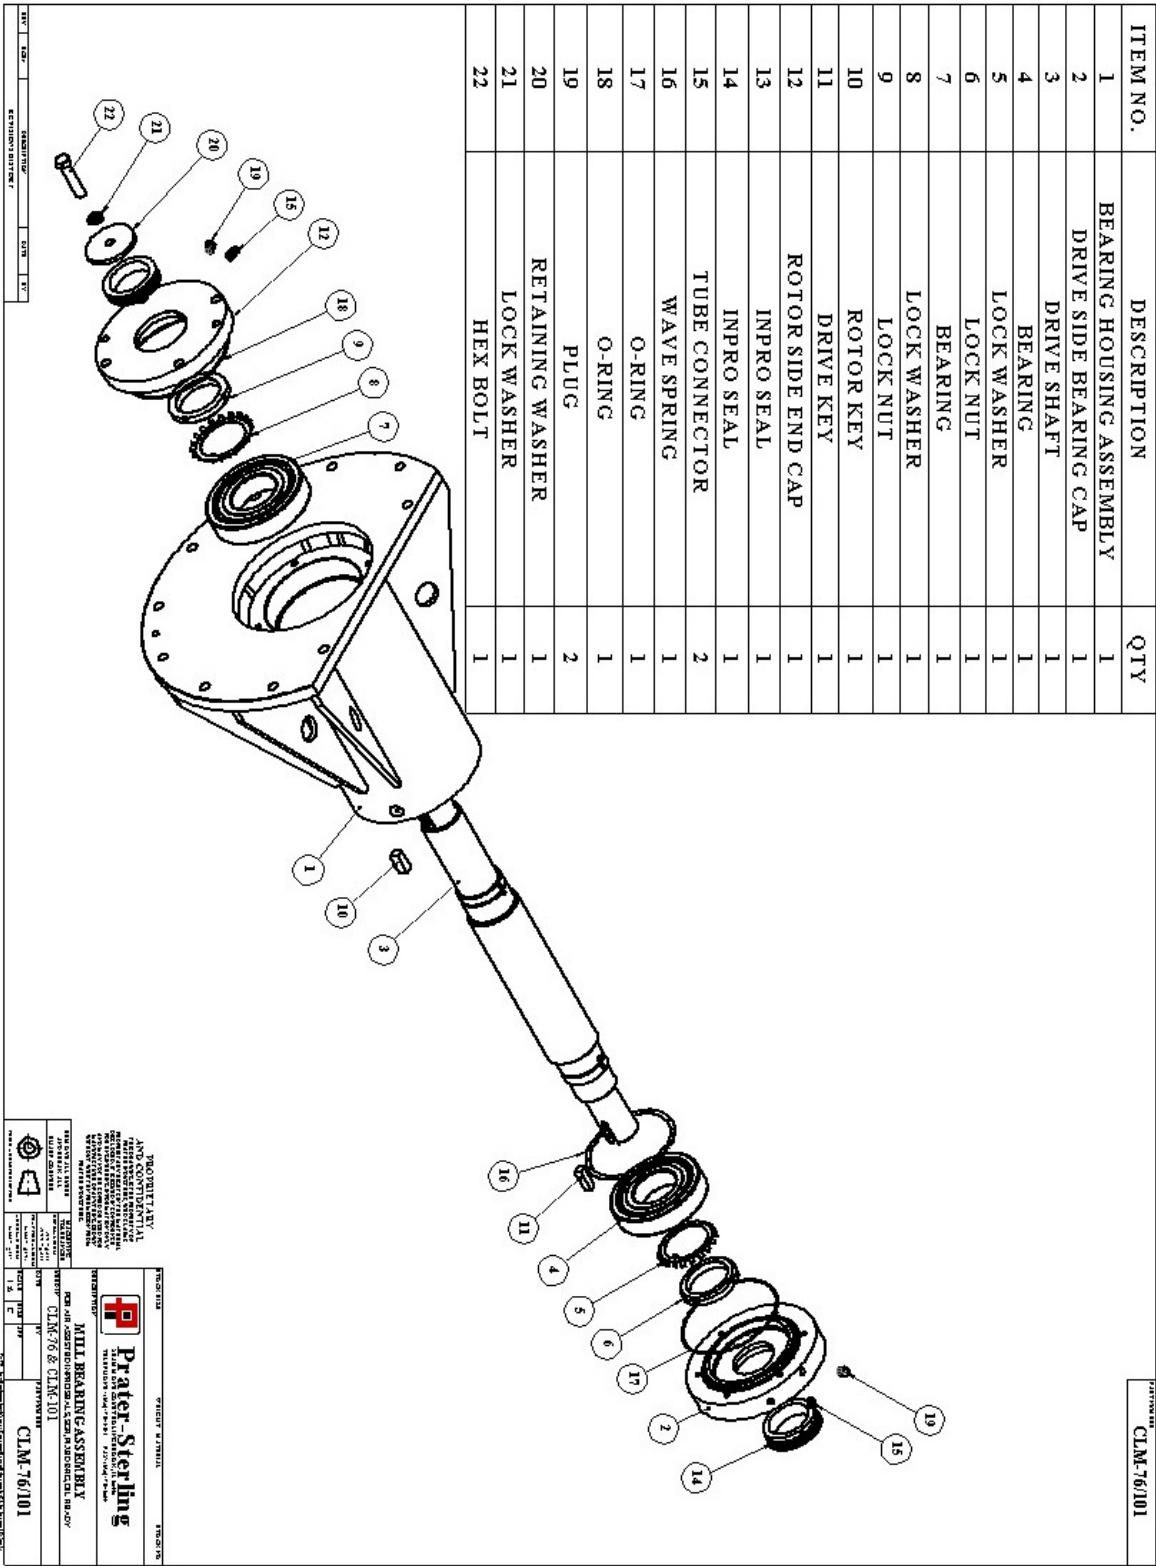
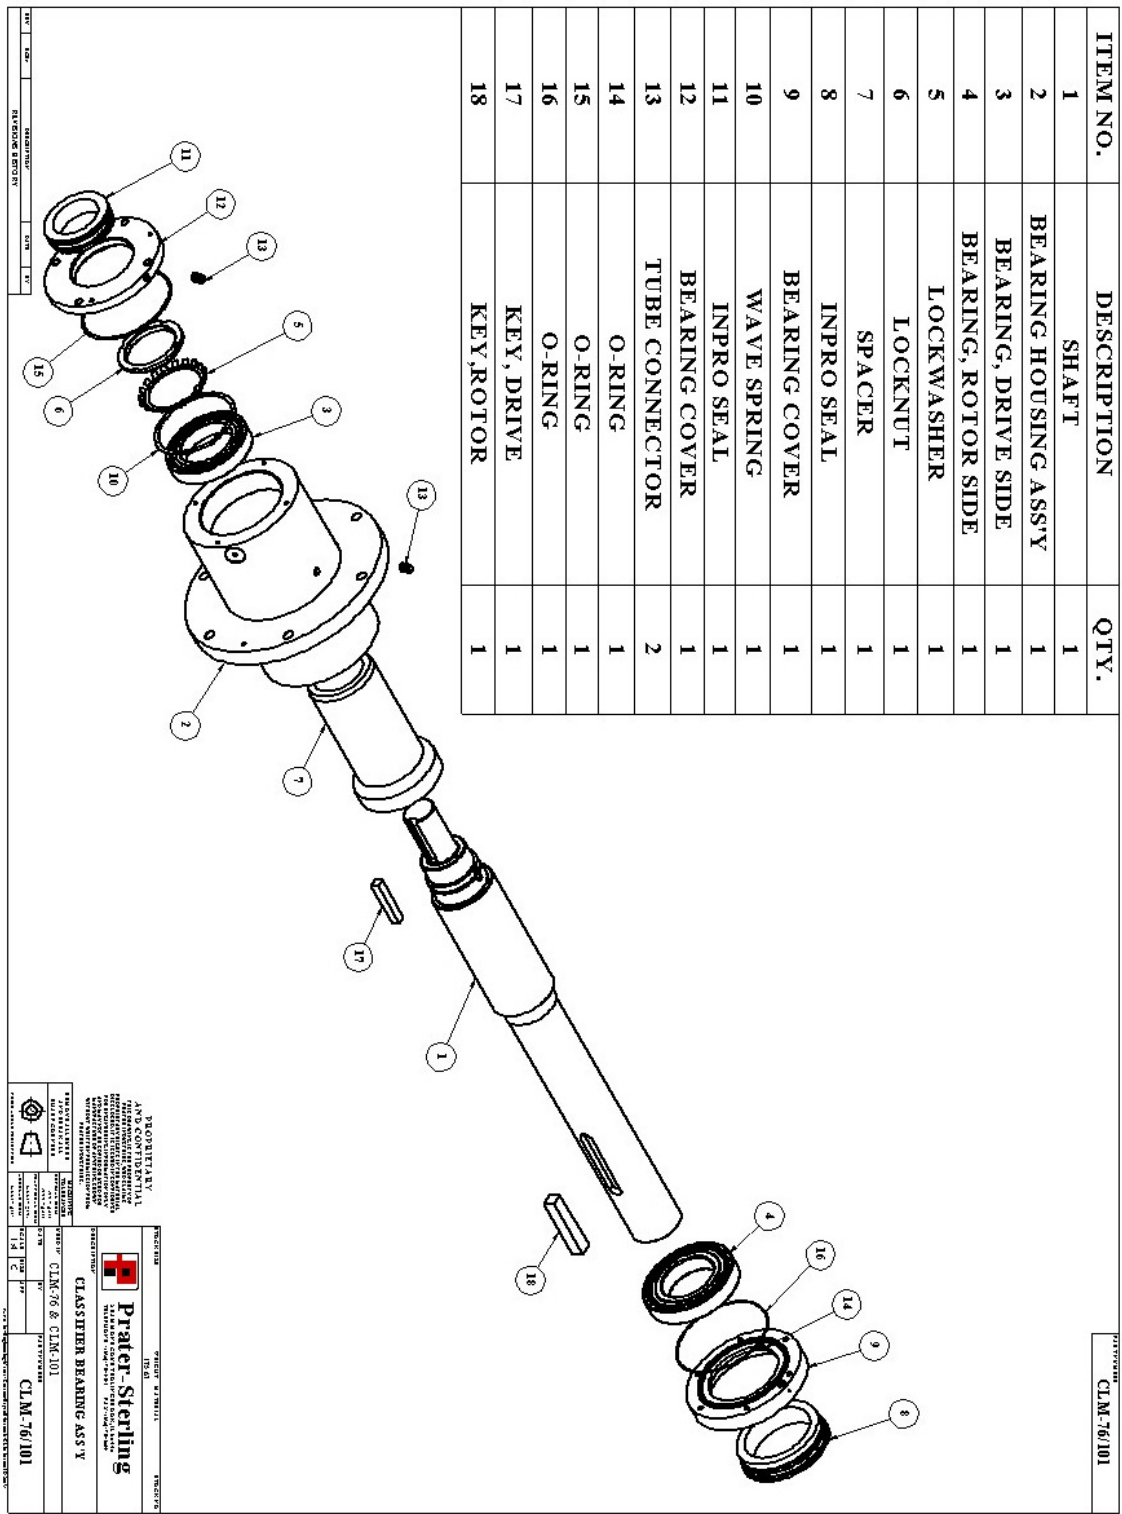
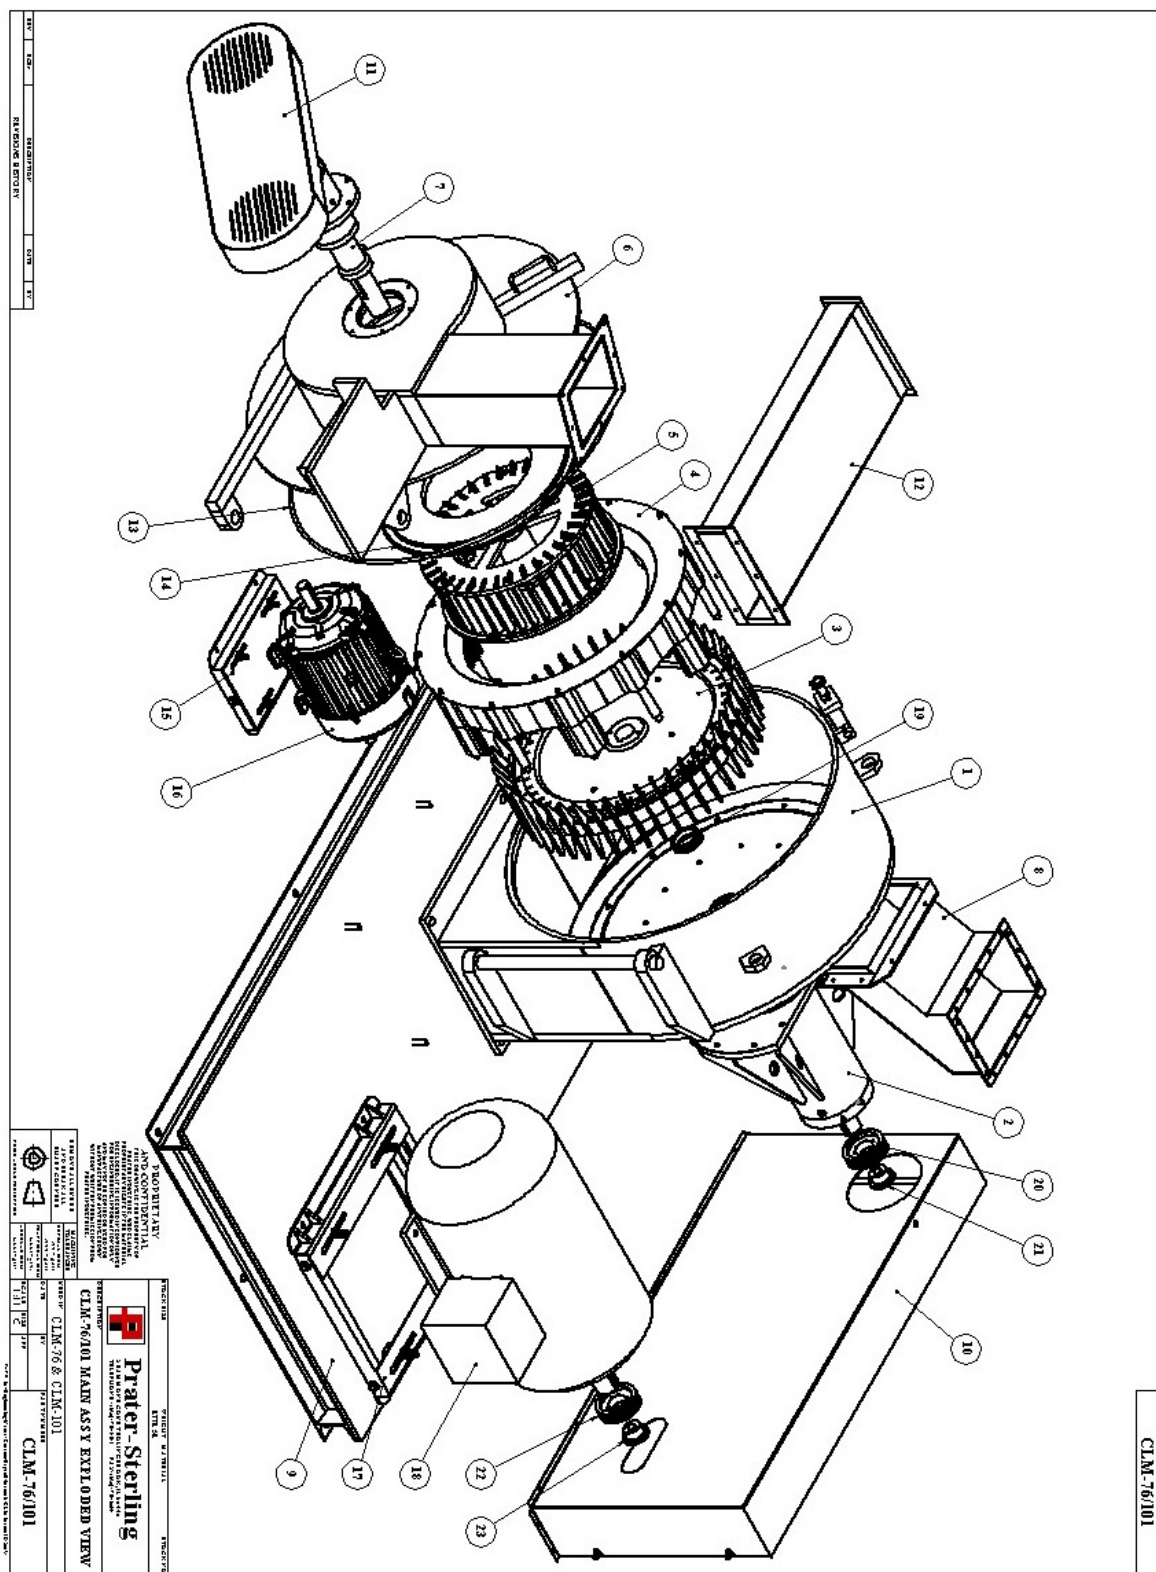

Figure 6.3: CLM-76 & CLM-101 Exploded Mill Bearing Assembly
Figure 6.4: CLM-76 & CLM-101 Exploded Classifier Bearing Assembly
Figure 6.7: CLM-76 & CLM-101 Main Assembly Exploded View
Assemble bearings (Figure 6.3 - 4, 7)) on mill shaft (Figure 6.3 - 3) using the following procedure:
The pressure applied to the bearing must be on the inner race, and the inner race only. Never put pressure on the outer race to press a shaft into the inner race of a bearing. Be sure the tool being used to apply pressure to the inner race is only touching the inner race. Never apply pressure to one bearing while using the opposite bearing for resistance or as a stop. This will damage the opposite bearing. The assembly operation starts by pressing the rotor side bearing (Figure 6.3 - 7) onto the bearing housing shaft (Figure 6.3 - 3). Install the lock washer and lock nut (Figure 6.3 - 8, 9) so they are tight against the inner race. Press the drive side bearing (Figure 6.3 - 4) onto the shaft (Figure 6.3 - 3). Replace lock washers and lock nuts (Figure 6.3 - 5, 6) so they are tight against the inner race. Make sure the tabs in the lock washers are bent down onto the lock nut.
Using an induction heater, heat the rotor side bearing (Figure 6.3 - 7) and insert it on the shaft (Figure 6.3 - 3) and against the shaft shoulder and let it cool. **MAXIMUM temperature is 230° F (110°C)**. Install the lock washer and lock nut (Figure 6.3 - 8, 9) so they are tight against the inner race. Heat the drive side bearing (Figure 6.3 - 4) and insert it on the shaft (Figure 6.3 - 3) and against the shaft shoulder and let it cool. **MAXIMUM temperature is 230° F (110°C)**. Replace
lock washers and lock nuts (Figure 6.3 - 5, 6) so they are tight against the inner race. Make sure the tab in the lock washer is bent down onto the lock nut.
Replace rotor (Figure 6.7 - 3) and install end cap, lock washer, and bolt (Figure 6.3 - 20, 21, 22). Check for smooth rotor rotation and zero endplay. Install and tension the drive belts then close and secure the drive belts guard.
1. Turn off the Classifier Mill and allow the rotors (Figure 6.7 - 3,5) to come to a complete stop.
3. Open door (Figure 6.7 - 6) and remove the lock washers, screws, and end cap (Figure 6.11 - 3, 14, 20) that attach the classifier rotor (Figure 6.7 - 5) to the classifier bearing assembly (Figure 6.7 - 7).
4. Withdraw the classifier rotor (Figure 6.7 - 5) from the bearing housing shaft (Figure 6.4 - 1).
5. Remove rotor key (Figure 6.4 - 18) from mill shaft (Figure 6.4 - 1).
6. Open the drive belts guard (Figure 6.7 - 11) and release belt tension by adjusting the classifier motor (Figure 6.7 - 16) until the drive belts can be removed from the pulleys without damage.
7. Remove the classifier drive pulley from the classifier bearing shaft (Figure 6.4 - 1) and remove the drive key (Figure 6.4 - 17).
8. Remove the HHCS to remove the front rotor side end cap assembly (Figure 6.4 - 9) and spacer (Figure 6.4 - 7) from the classifier bearing assembly.
9. The classifier bearing shaft (Figure 6.4 - 1) is now ready for removal. Using a rubber mallet or similar device, displace shaft from the drive side of the bearing housing assembly, moving the shaft axially one to three inches towards the mill housing side of the bearing assembly.
10. Once the shaft is clear of the bearing seats, it can be pulled out from the bearing housing. Remove the rotor drive bearing (Figure 6.4 - 4) from the shaft (Figure 6.4 - 1).
11. Remove the drive bearing (Figure 6.4 - 3) by removing the locknut and lock washer (Figure 6.4 - 5, 6). Make sure to bend tab on lock washer so it is clear of the locknut.
Assemble bearings (Figure 6.4 - 3, 4) on mill shaft (Figure 6.4 - 1) using the following procedure:
The pressure applied to the bearing must be on the inner race, and the inner race only. Never put pressure on the outer race to press a shaft into the inner race of a bearing. Be sure the tool being used to apply pressure to the inner race is only touching the inner race. Never apply pressure to one bearing while using the opposite bearing for resistance or as a stop. This will damage the opposite bearing. The assembly operation starts by pressing the drive side bearing (Figure 6.4 - 3) onto the bearing housing shaft (Figure 6.4 - 1). Install the lock washer and lock nut (Figure 6.4 - 5, 6) so they are tight against the inner race. Press the rotor side bearing (Figure 6.4 - 4) onto the shaft (Figure 6.4 - 1). Replace the rotor side end cap and spacer (Figure 6.4 - 9, 7) and make sure the spacer is pressed firmly against the inner race of the classifier rotor bearing (Figure 6.4 - 4) before reinstalling the classifier rotor.
Using an induction heater, heat the drive side bearing (Figure 6.4 - 3) and insert it on the shaft (Figure 6.4 - 1) and against the shaft shoulder and let it cool. **MAXIMUM temperature is 230° F (110°C)**. Install the lock washer and lock nut (Figure 6.4 - 5, 6) so they are tight against the inner race. Heat the rotor side bearing (Figure 6.4 - 4) and insert it on the shaft (Figure 6.4 - 1) and against the shaft shoulder and let it cool. **MAXIMUM temperature is 230° F (110°C)**. Replace the rotor side end cap and spacer (Figure 6.4 - 9, 7) and make sure the spacer is pressed firmly against the inner race of the classifier rotor bearing (Figure 6.4 - 4) before reinstalling the classifier rotor.
Replace the rotor key (Figure 6.4 - 18) onto the mill shaft (Figure 6.4 - 1) and reattach the classifier rotor (Figure 6.7 - 5) using the lock washers, screws, and end cap (Figure 6.11 - 3, 14, 20). Install and tension the drive belts then close and secure the drive belts guard.
1. Turn off the Classifier Mill and allow the rotors (Figures 6.4 & 6.6 - 3, 5) to come to a complete stop.